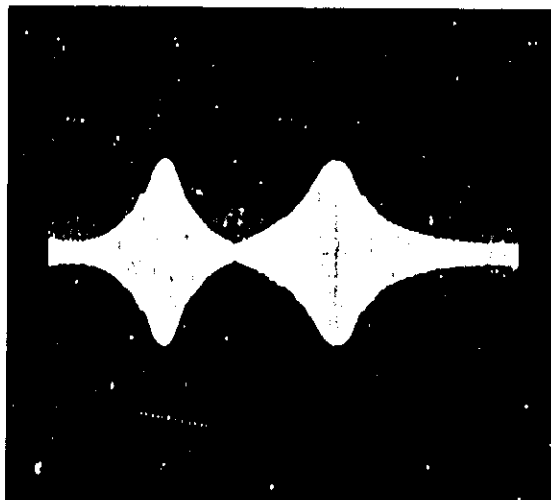

Figure 5-2. Test Channel IF Bandpass Birdies
- e. Set 8620C for CW frequency of approximately 2.2 GHz and a ΔF of approximately 400 MHz. Set power level to -18 dBm. Disconnect thermistor mount and connect 8411A TEST port to test set. Adjust frequency controls for display on oscilloscope similar to Figure 5-2. It may be necessary to adjust A6R14 from its preset position for maximum birdie amplitude.